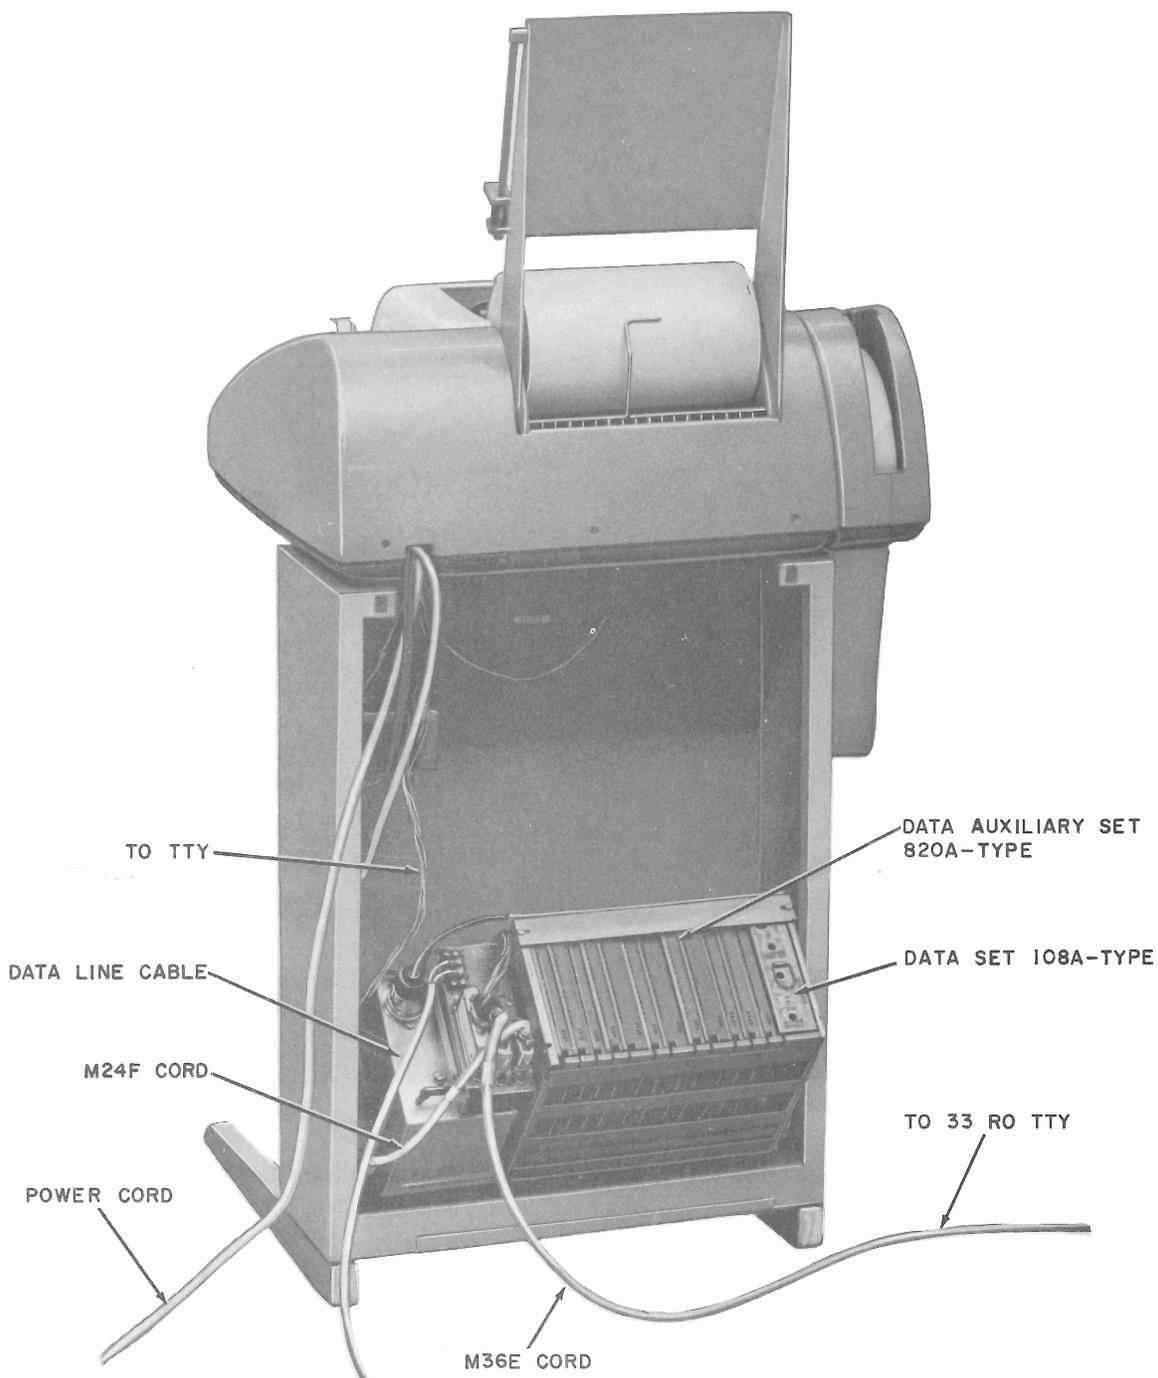

Fig. 7—33-Type TTY Data Station—Data Auxiliary Set 820A-Type
- (7) Disconnect plug on the M24F cord (part of the 804N1 attendant set) from the P connector on the controller (Fig. 7).
- (8) Withdraw the cable from the pedestal of the TTY.
- (9) Remove the mounting bracket, key and lamp assembly, and loudspeaker by lifting vertically.
(2) Remove the rear cover by pulling the top slightly to the rear and sliding it up and out of the mounting flange at the TTY pedestal.
(3) Release the latch on the 91A bracket and pivot the controller to the maintenance position (Fig. 7).
(4) Disconnect the M, N, P, and power plugs from the controller connectors.
(5) Loosen the two screws on the controller terminal board and remove the Tip (T) and Ring (R) spade lug wiring.